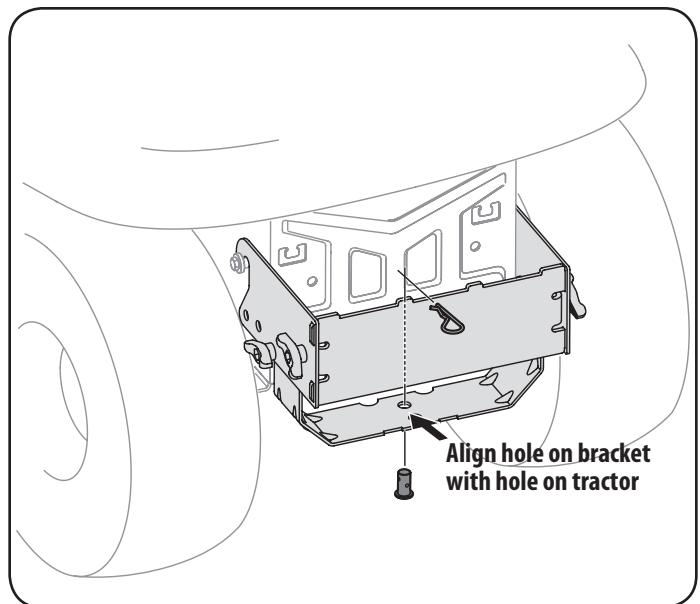

Figure 9
2. Install the clevis pin (711-0309A) from hardware pack 689-00312 into the tractor's hitch and secure with a hairpin clip (714-0117). See Figure 9.